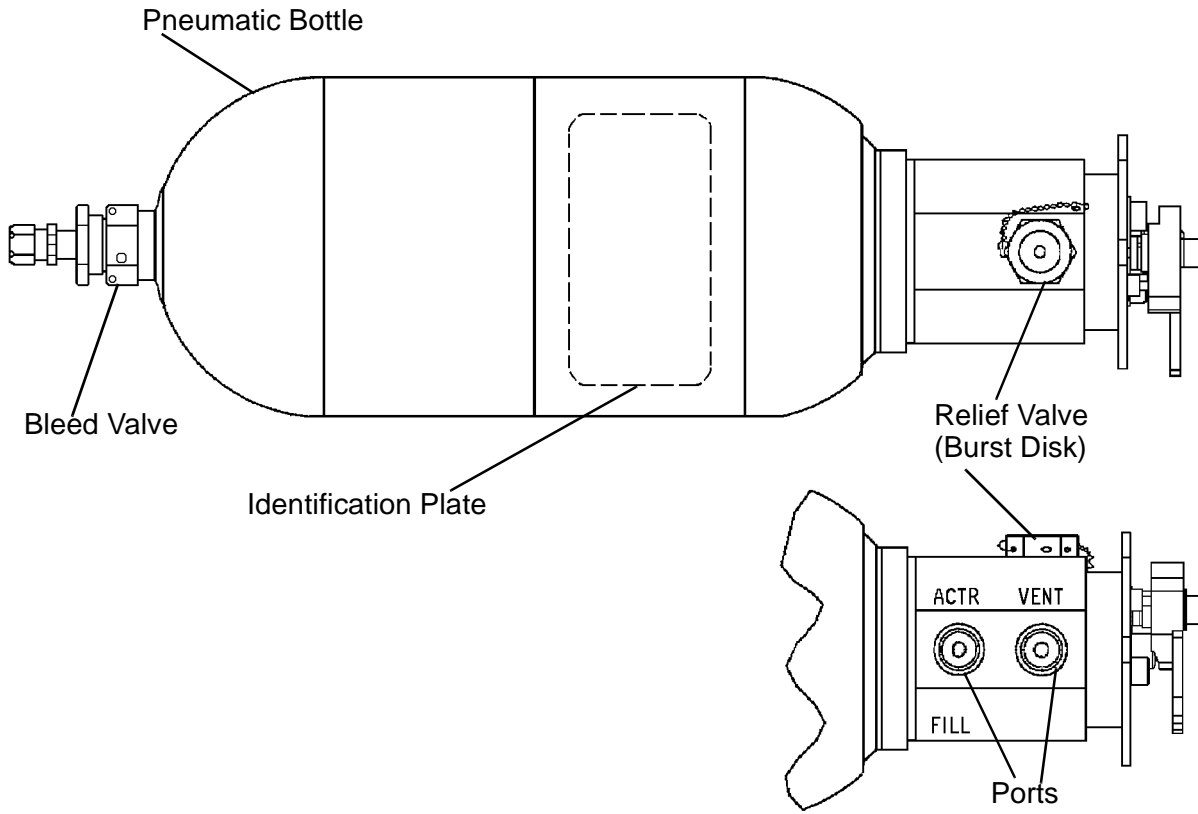

Figure 1. Primary Components for Part Numbers 40005338-5 and 40005347-3
- A. Pneumatic Bottles, part numbers 40005338-5 and 40005347-3, consist of a container assembly, a red discharge indicator (burst disk), and a valve (Figure 1).